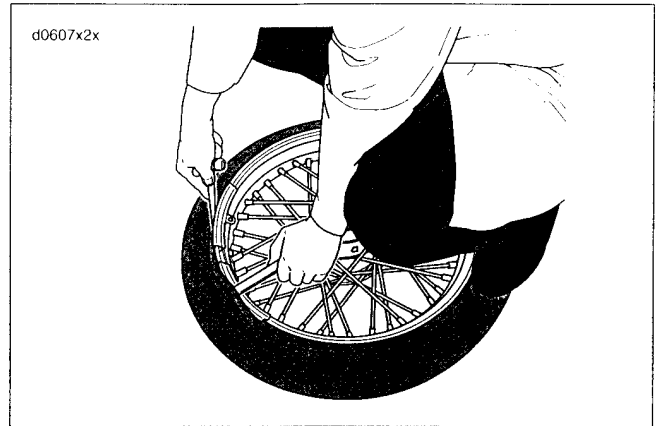

Figure 2-55. Starting Tire Off Rim
4. See Figure 2-55. Using tire tools (not sharp instruments), and RIM PROTECTORS (Part No. HD-01289) start upper bead over edge of rim at valve. Do not use excessive force when starting bead over rim. Bead wires may be damaged ruining the tire. Repeat all around rim until first bead is over rim.